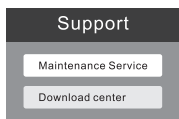
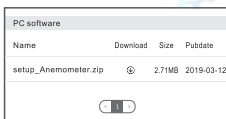
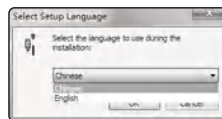

Figure 2
Figure 3
Figure 4
www.benetechco.net in the browser, press enter and enter the page to find the menu "Support > Download center",as shown in Figure 2. Click into the page to find the software installation package "setup_Anemometer. Zip",as shown in figure 3.Click the download button to directly extract the "zip package" after downloading. Double-click "setup_Anemometer.exe" icon to enter into program installation interface; choose between"Chinese or English" according to software installation prompt; click "OK" to the next step, as shown in Figure 4 below.
- Line chart: Figure 1 is wind speed / volume chart; Figure 2 is temperature and humidity chart; print button; measured data list.